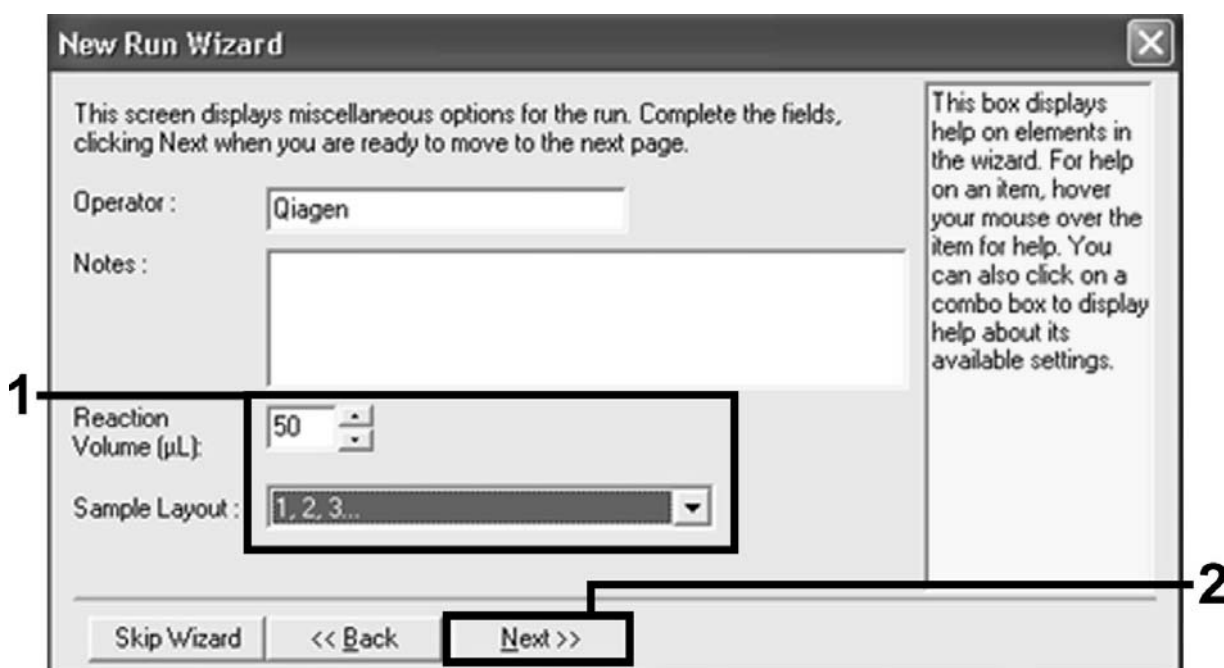

Figure 2. Setting the general assay parameters.
7. Select 50 for the PCR reaction volume and click "Next" (Figure 2).